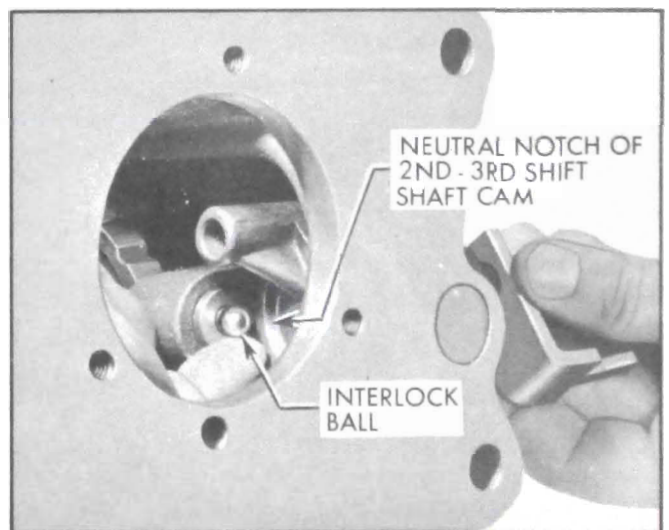

Figure 4-23—Installing Interlock Ball
5. Move first-reverse cam toward transmission housing. Install interlock ball and move cam back to original (normal) position allowing the neutral (center) notch of cam to retain ball. Install tapered shift shaft lock pin. See Figure 4-23.